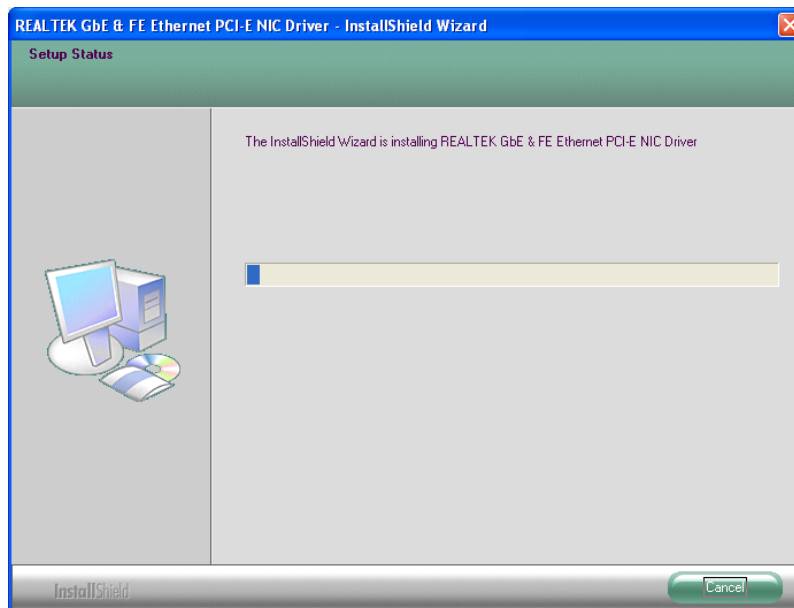

Figure 6-21: LAN Driver Installation
Step 8: The installation progress can be monitored in the progress bar shown in **Figure 6-21**.